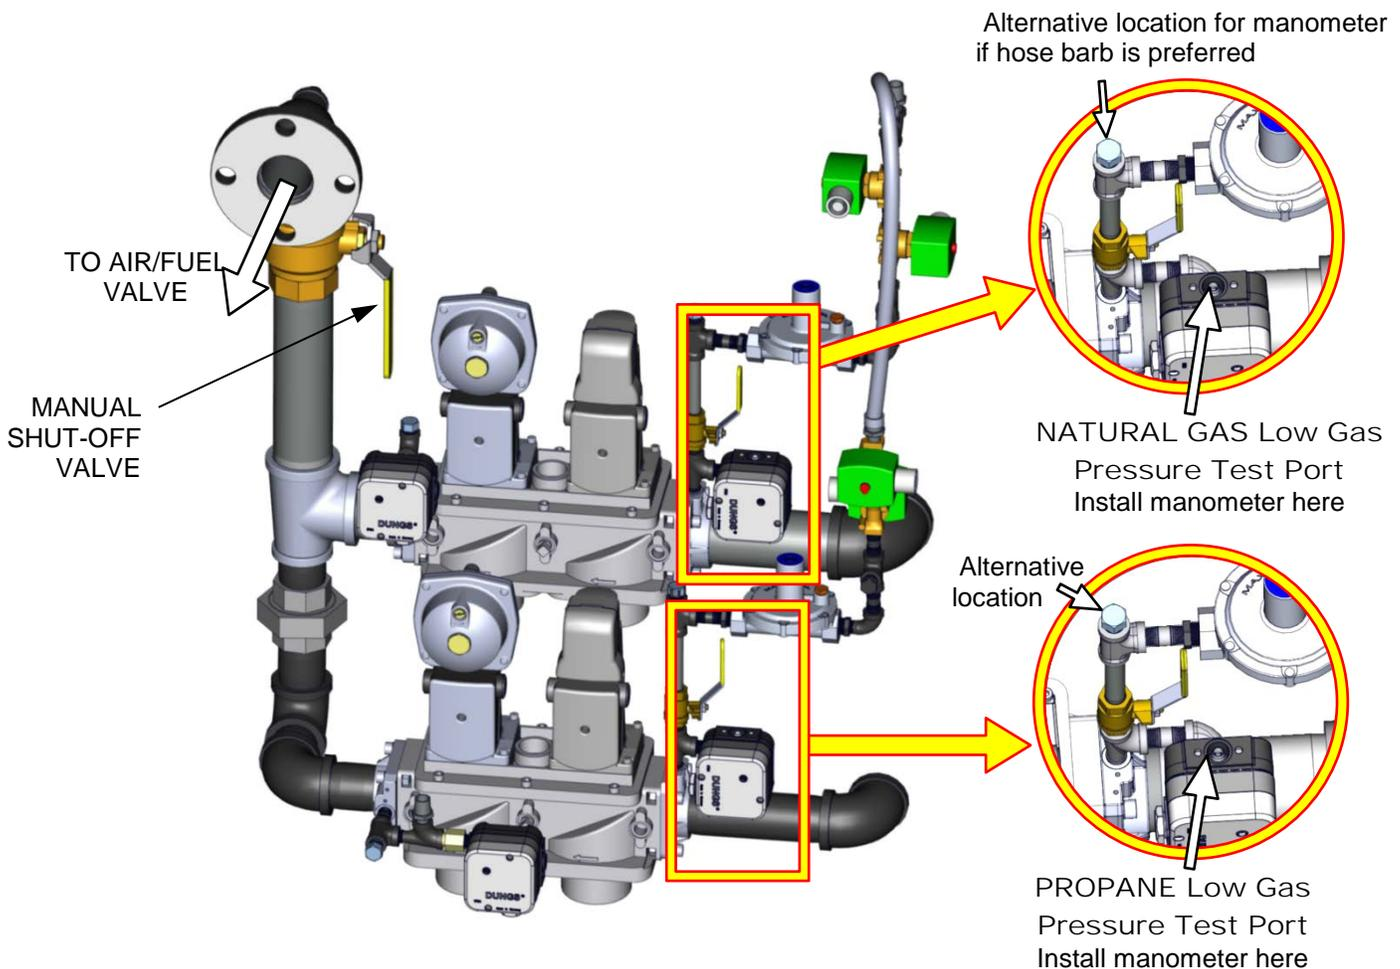

Figure 6-1A: Low Gas Pressure Switch Locations & Test Ports
Refer to Figure 6-1A to locate both Low Gas Pressure switches and the proper locations to connect the water column manometer when performing the tests in this section.
3. Locate the port on the top of the **NATURAL GAS Low Gas Pressure Switch** (see Figure 6-1A) and loosen the screw inside a few turns to open it. Do not remove this screw completely. Alternatively, you can remove the 1/4 inch plug shown in the top half of Figure 6-1A and install a hose barb fitting in that location.
15. Repeat the previous procedure on the PROPANE gas train, starting with the the PROPANE Low Gas Pressure Switch, shown in the bottom-half of Figure 6-1A.
2. Locate the port on the top of the **NATURAL GAS High Gas Pressure Switch** (see Figure 6-1A) and loosen the screw inside a few turns to open it. Do not remove this screw completely. Alternatively, you can remove the 1/4 inch plug shown in the top half of Figure 6-1A and install a hose barb fitting in that location.